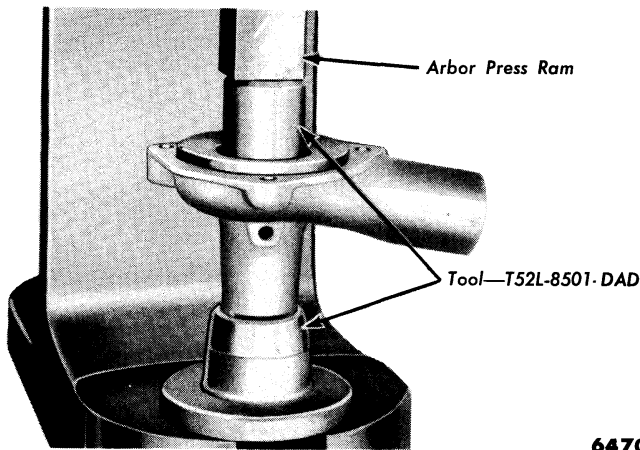

Fig. 80—Seal Installation—Typical
(3) **ASSEMBLY.** Clean all gasket material from the mounting face of the pump. Install a new seal in the pump housing as shown in fig. 80. Coat the seal with a light coating of waterproof sealer. Use the seal installing tool marked 8501-DD-17.